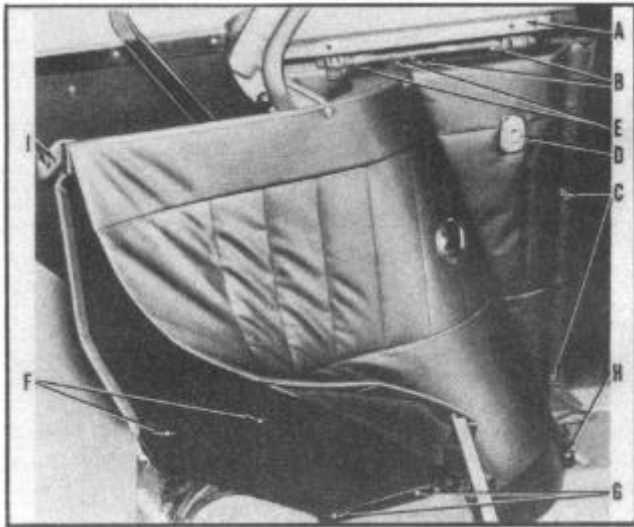

FIGURE 130
The quarter trim panel consists of two separate panels; the forward (triangular) panel is held in place by two screws (B), Figure 130, under the garnish moulding (A) and two screws (C) and countersunk washers at the door pillar. A clip at the rear of the panel enters behind the rear half of the quarter trim panel.
To remove the front half of the quarter trim panel, remove the garnish moulding (A), screws (B) and (C), and switch or regulator handle (D), Figure 130.